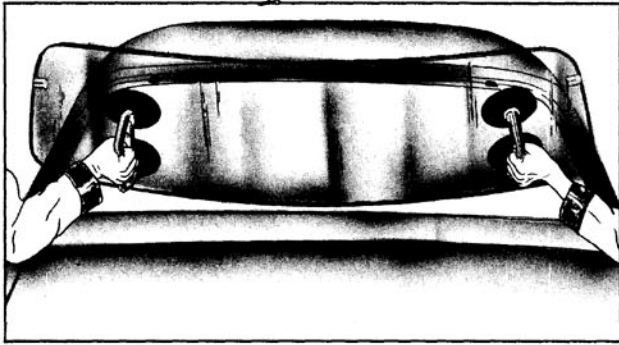

Fig. 16-470 Back Window Installation
19. With the aid of a helper, carefully install glass in body opening. (Figs. 16-470 and 16-471) Make certain that glass sets properly on all spacers and does not have to be shifted after caulking material contacts pinchweld flange.